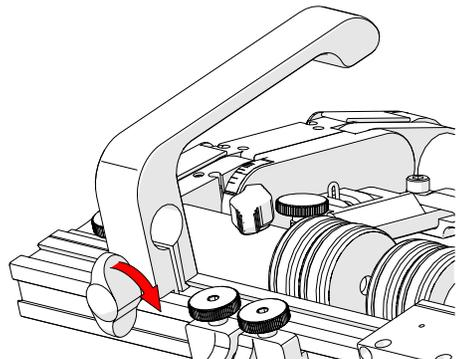

Fig. 21 - Tighten black wing knob
2. Tighten the black wing knob when the handle is in place on the frame bar (Fig. 21).